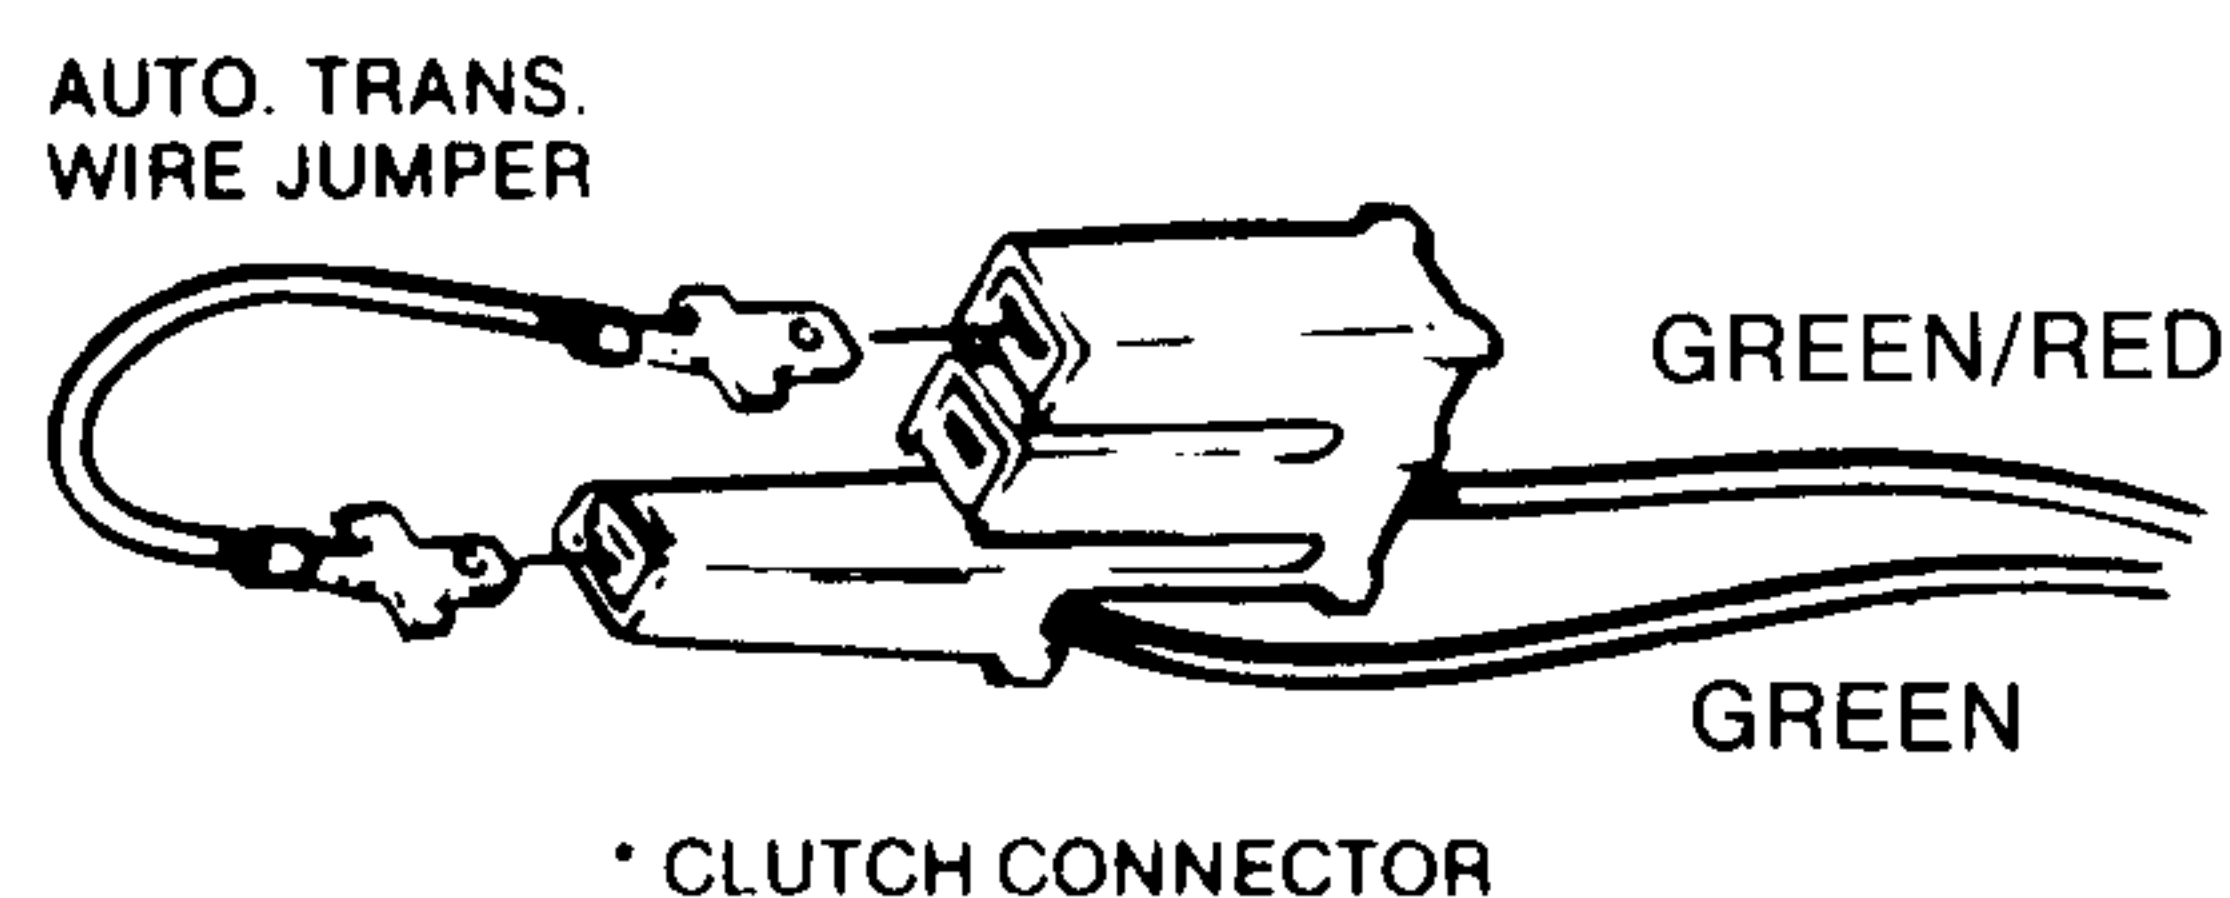

Figure 12
14. Install small jumper into clutch switch connector (2-wires, both green) from master wire harness to complete circuit. **FIGURE 12**. **NOTE:** System will not function without this wire jumper connection.